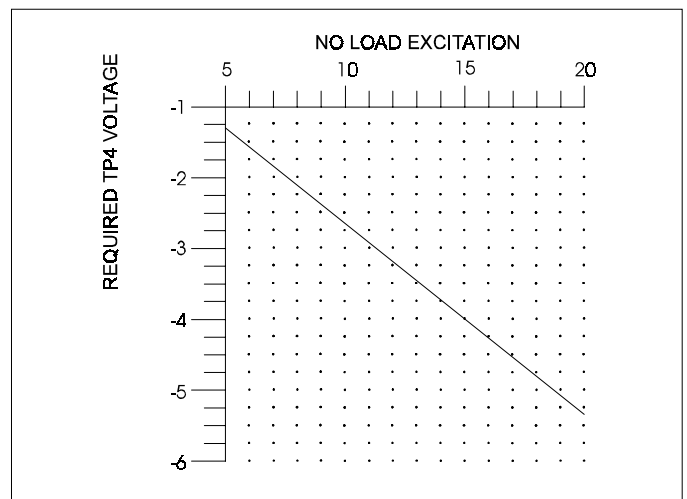

Fig. 11 Low Excitation Limit Setting
- Using the graph shown in Fig 11, adjust the low excitation limit control **XLIM** to set the voltage on the test point as indicated.